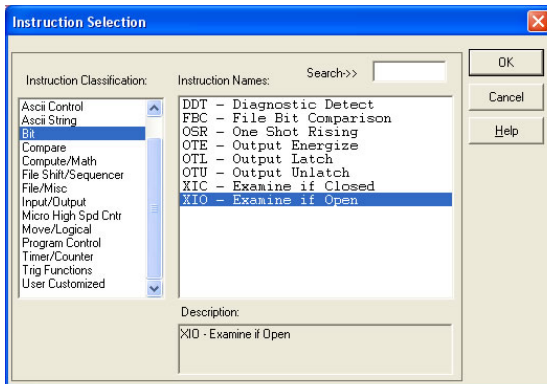

Figure 116: XIO Instruction Selection
- Select the “XIO” instruction from the “Bit” classification, then click OK. Refer to Figure 116.